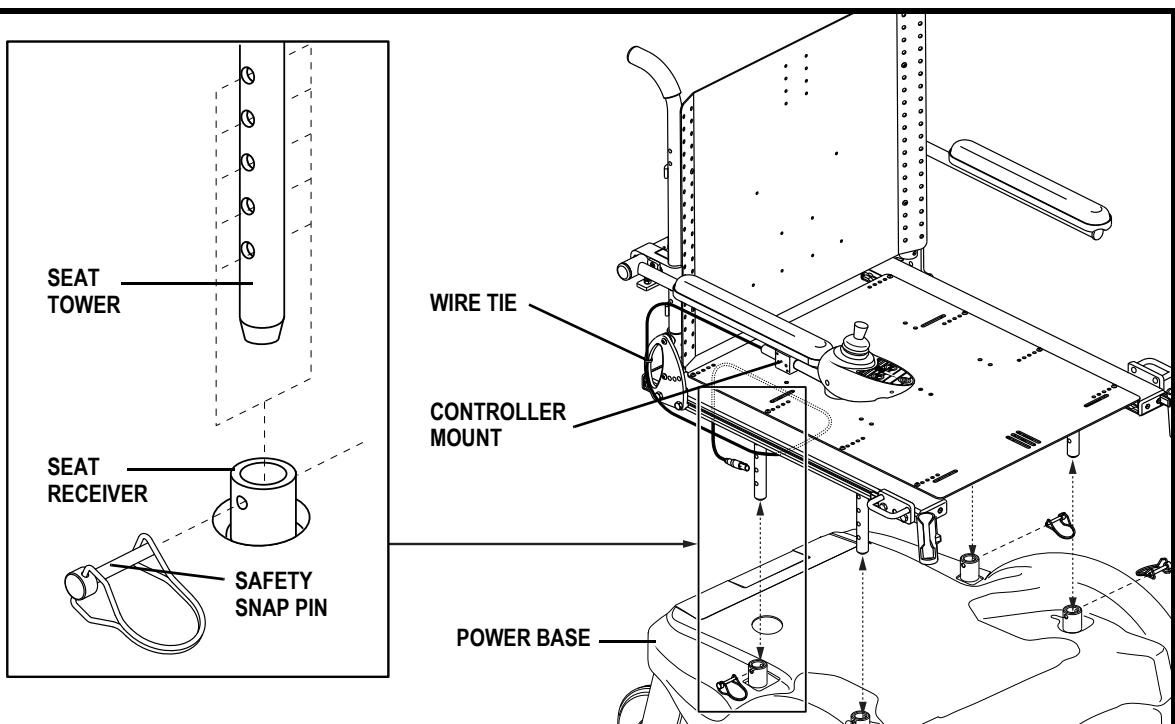

Figure 10. Seat Installation/Removal (Typical)
3. Align each seat tower with the corresponding seat receiver. **See figure 10.**
7. Loosen the setscrews on the controller mount. See figures 10 and 14.
11. Use a wire tie to secure the controller harness to the armrest. **See figure 10.**
3. Remove the safety snap pins from the seat receivers. **See figure 10.**